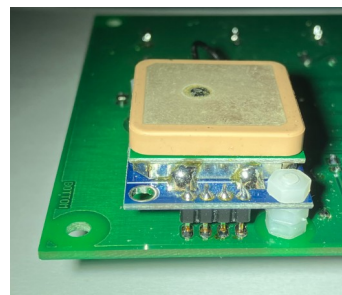

FIGURE 6. Detailed view of GPS soldered pin
- ☐ solder 4-pin header into GPS module on the TOP side as shown in Fig. 6
- ☐ solder all four pins to the main board (Fig.6)